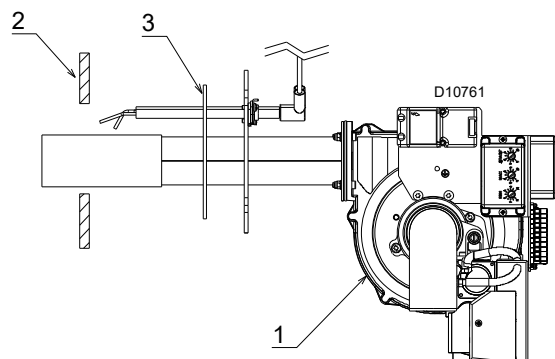

Fig. 7
- Fix the burner **1**(Fig. 7) to the boiler door **2** using the 4 screws and (if necessary) the 4 nuts supplied to the standard equipment, interposing the insulating flange gasket **3**.